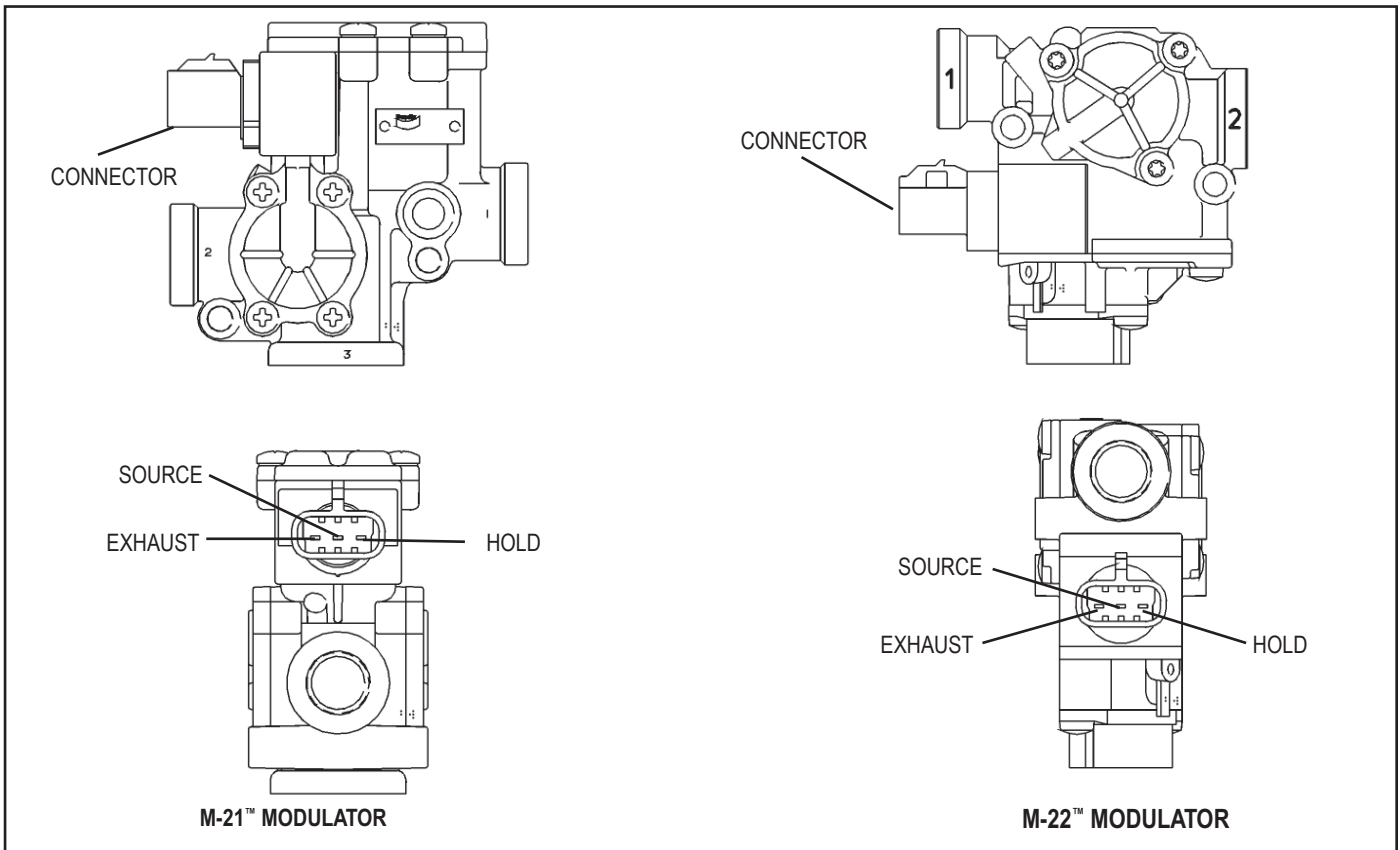

FIGURE 9 - M-21™, M-22™ MODULATOR CONNECTOR VIEW
2. Proceed to the modulator in question and inspect its wiring connector. Disconnect the connector and test the resistance between the pins ON THE MODULATOR. Refer to figure 9.